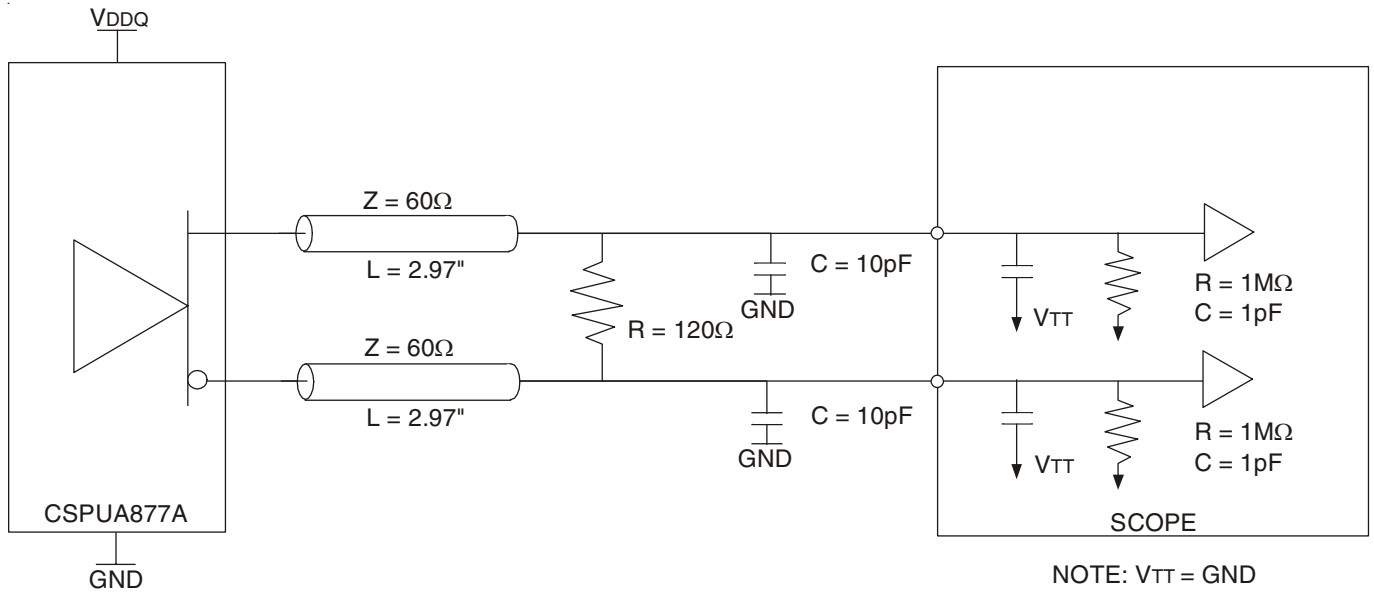

Figure 1: Output Load Test Circuit 1
- There are two different terminations that are used with the above AC tests. The output load shown in figure 1 is used to measure the input and output differential pair cross-voltage only. The output load shown in figure 2 is used to measure all other tests, including input and output slew rates. For consistency, use 50Ω equal length cables with SMA connectors on the test board.
- In the frequency range of 271 - 410MHz, the min and max values for t_{JIT(PER)} and t_{(∅)DYN}, and the max value for tsk(O), must not exceed the corresponding min and max values of the 160 - 270MHz range. Also, the sum of the specified values for | t_{JIT(PER)} |, | t_{(∅)DYN} |, and tsk(O) must meet the requirement for Σt(SU), and the sum of the specified values for | t_{(∅)DYN} | and tsk(O) must meet the requirement for Σt(H).